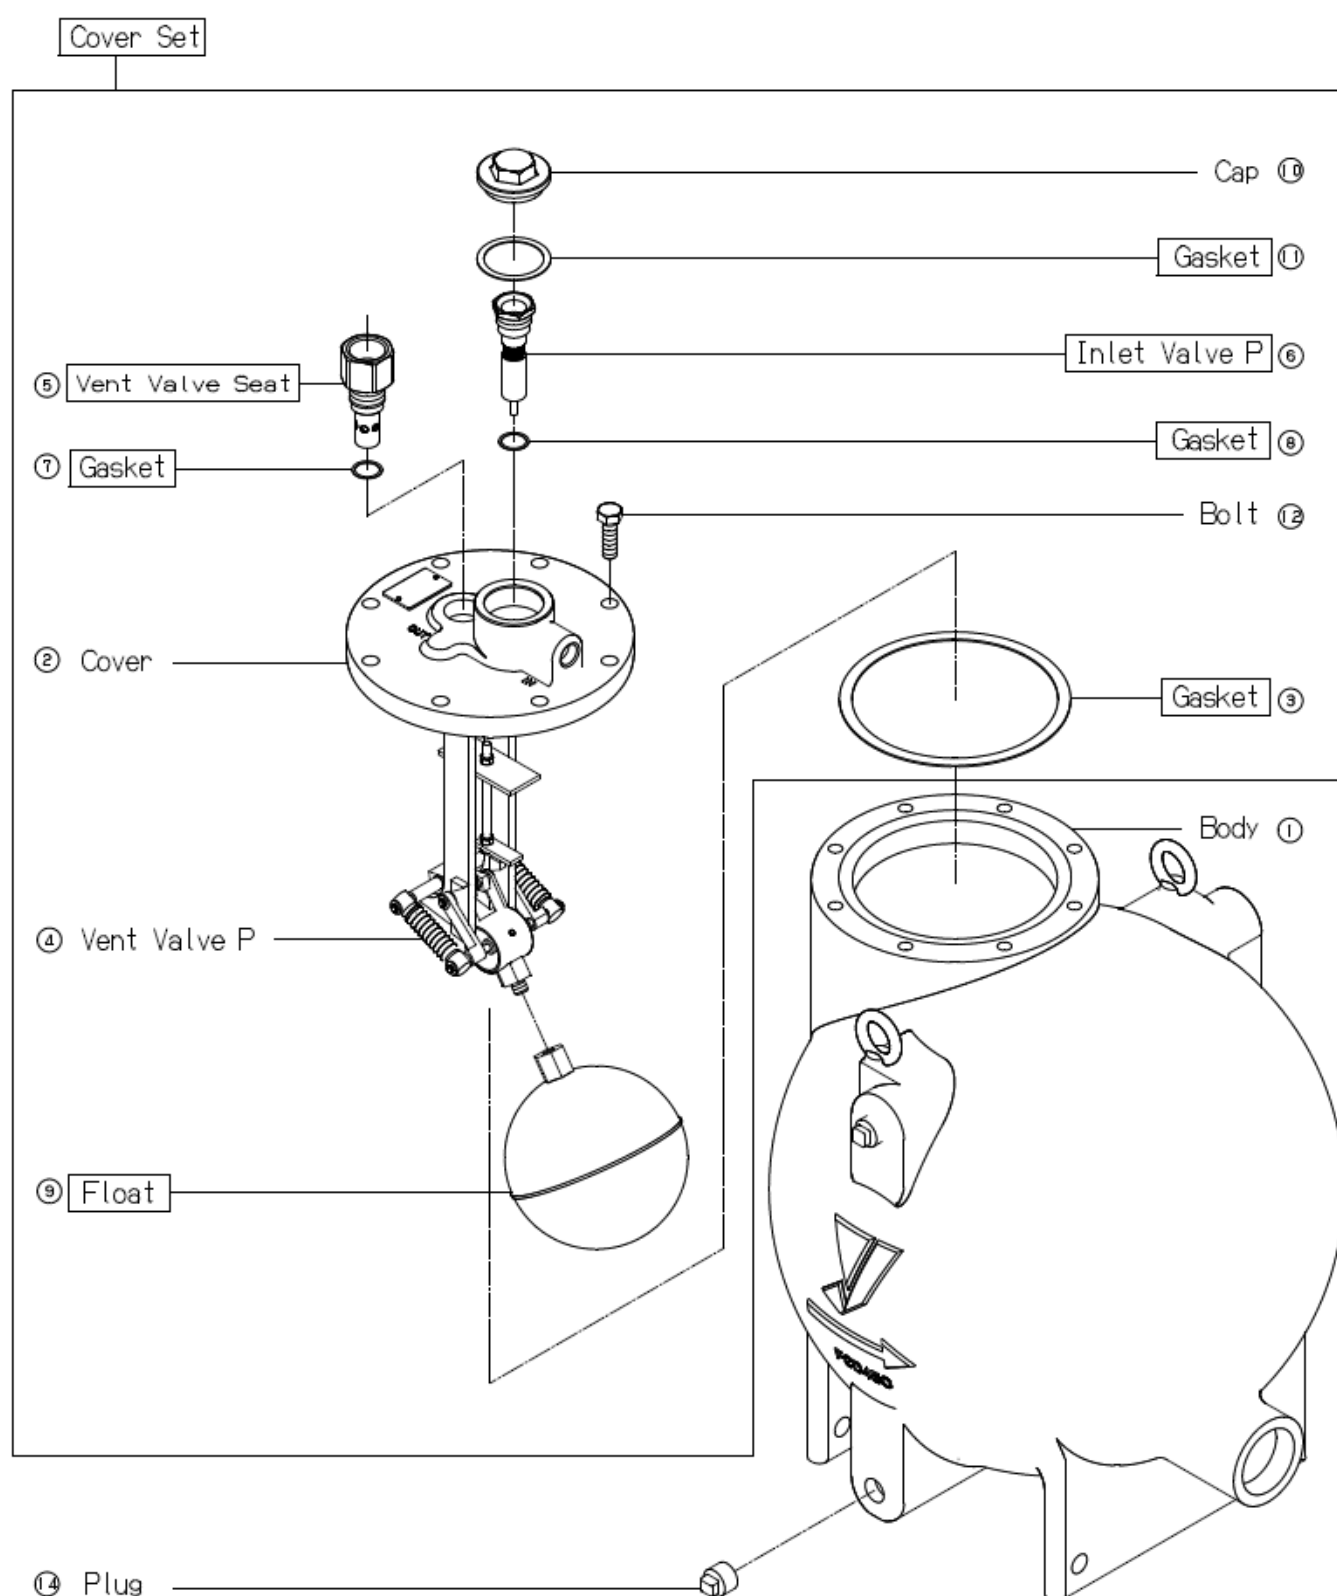

Fig. 8. Exploded view
The following parts should be replaced at recommended intervals to maintain functions and performance of the product. Replace the parts at the recommended intervals. (See Fig. 8 for the numbers inside the brackets [].)
8.3 Troubleshooting (See 6.1 Piping example for marks and numbers of stop valves, and see Fig. 8 for the numbers inside the brackets [].)
8.4.1 Warning and caution for disassembly/assembly (See Fig. 8 for the numbers inside the brackets []).
8.4.2 Disassembly method (See Fig. 8)
8.4.3 Assembly method (See Fig. 8)